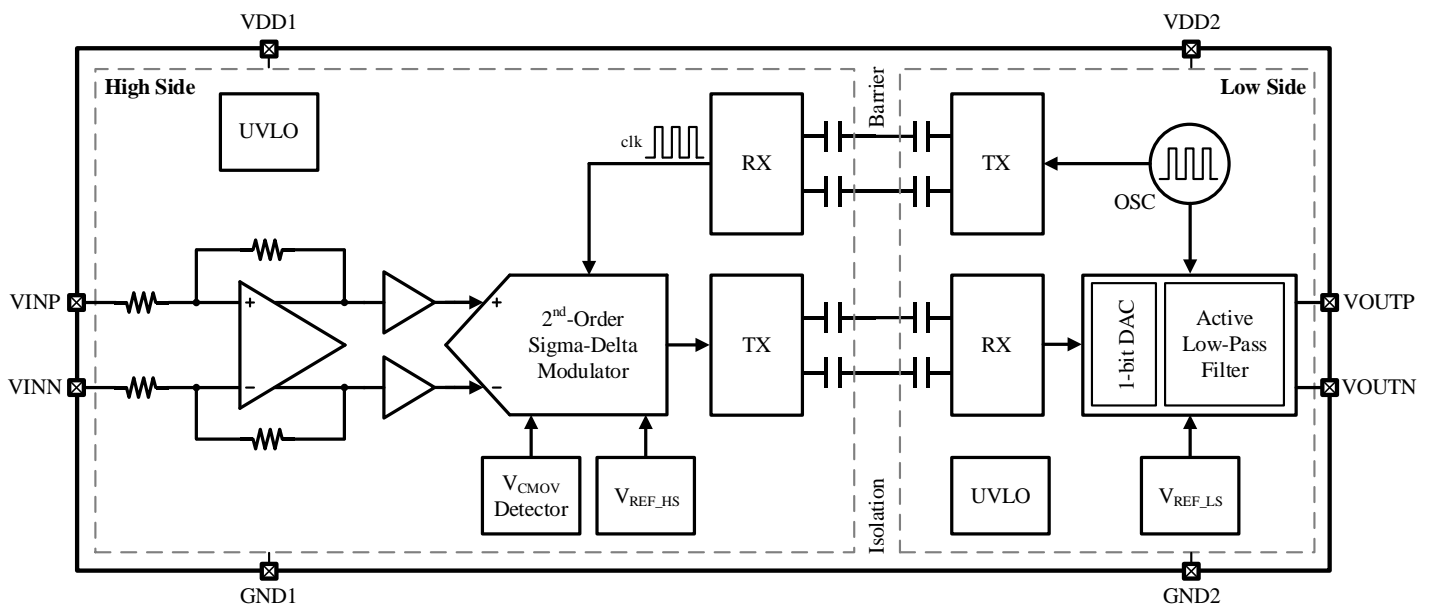

Figure 9-1 Functional Block Diagram of CA-IS1300x
The CA-IS1300x devices are high-precision isolated amplifiers designed for shunt-resistor-based current sensing. The functional block diagram of this device is shown in Figure 9-1. At high side, the fully differential amplifier pre-amplifies the measuring voltage across a shunt resistor and then drives a 2nd-order Sigma-Delta ($\Sigma\Delta$) modulator. This modulator converts the analog signal to a digital bitstream. For transmission across the SiO₂-based isolation barrier, the digital stream is further modulated with a high-frequency carrier using a simple on-off keying (OOK) modulation scheme. The receiver (RX) recovers the modulated signal to the original digital bitstream at low side. After processed by a 1-bit digital-to-analog converter (DAC), the digital bitstream is sent to an active low-pass filter to produce the analog output. For synchronization of the whole chip, the clock is generated at low side and sent back to high side ensuring that all clocks come from one source.